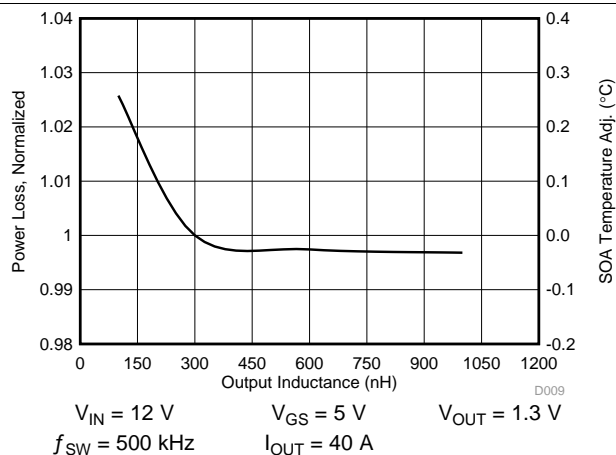

Figure 7. Normalized Power Loss vs Output Inductance
- Normalized power loss for output inductor ≈ 1 (Figure 7)
- SOA adjustment for output inductor $\approx 0.03^\circ\text{C}$ (Figure 7)